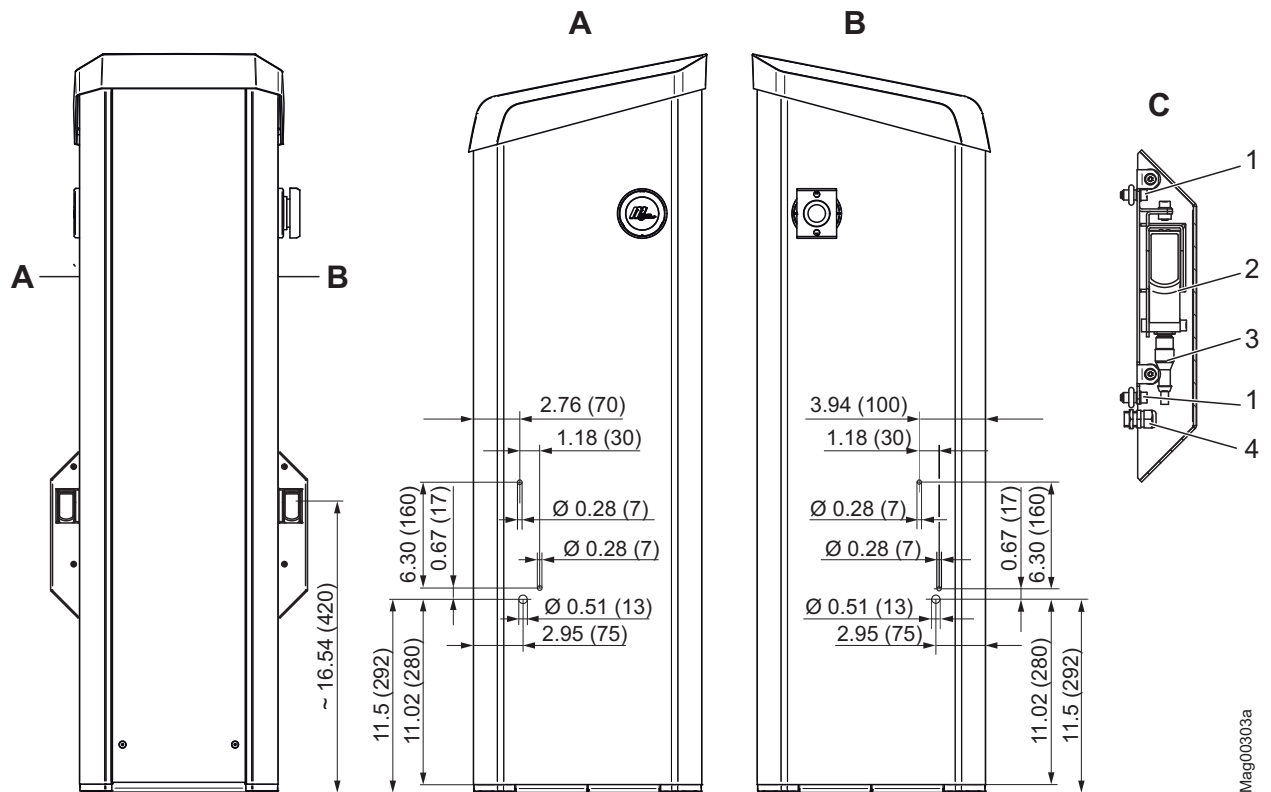

Fig. 20: Assemble the transmitter's light barrier housing on the barrier housing
1. Drill holes for the light barrier housing according to Fig. 20.